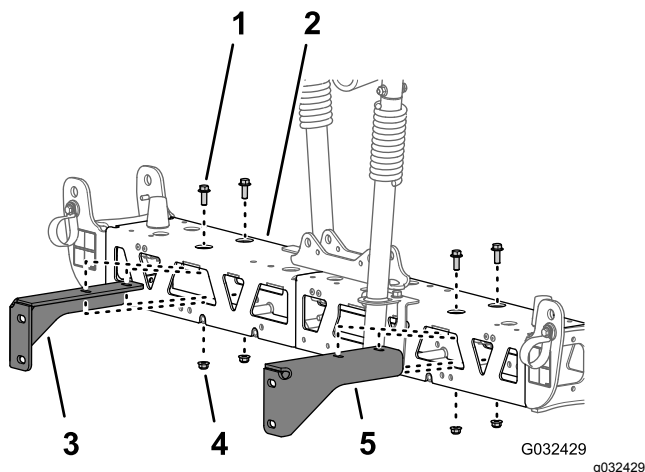

Figure 51
- Remove the 2 flange-head bolts (3/8 x 1 inch) and 2 flange locknuts (3/8 inch) that secure the support bracket to the center-spray section, and remove the bracket (Figure 51).
- Remove the 2 flange-head bolts (3/8 x 1 inch) and 2 flange locknuts (3/8 inch) that secure the other support bracket to the center-spray section, and remove the bracket (Figure 51).